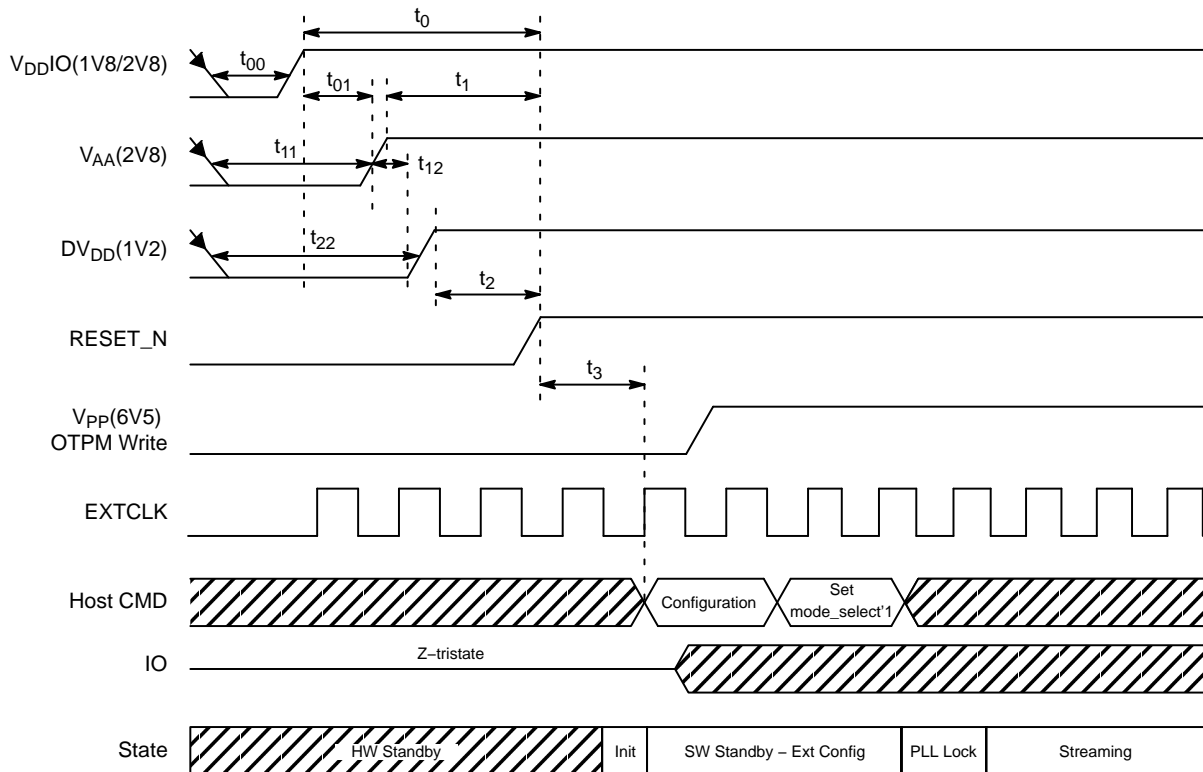

Figure 10. Initial Power-up Sequence
3. Wait for current to be applied on t_0 , t_1 , t_2 , controlled by external supply slew rate (See Figure 10).